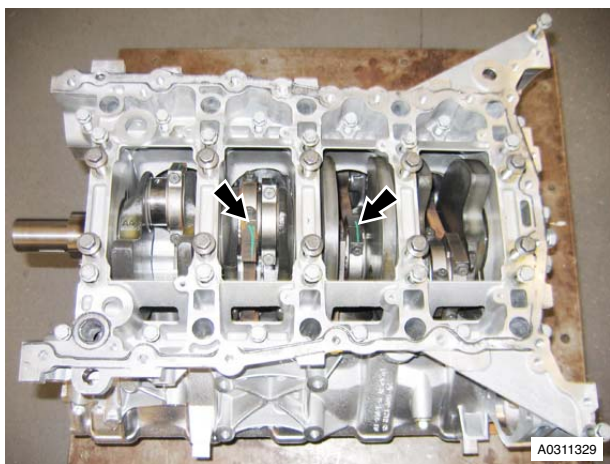

Figure 1
10. Mark bearing caps and connecting rods for correct installation (see Figure 1).